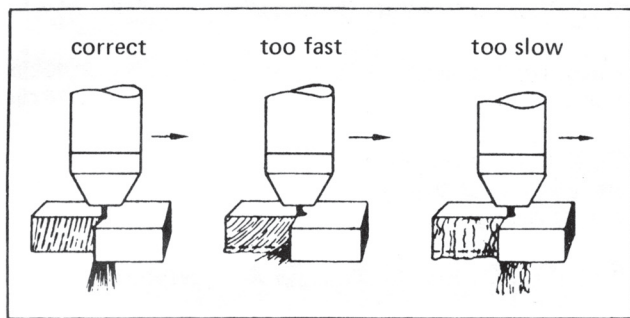

Fig. 5 - Effect of Cutting Speed
4. For manual cutting, maintain a standoff (torch-to-work distance) of about 1/8 to 3/8-in. (3/16 to 1/4-in. with the PT-121). (See Table 3 or 4.) Keep the torch head vertical, and move it at a rate that produces the desired cut quality. The cutting should produce a straight fine spray of molten metal emitting from beneath the workpiece as illustrated in Fig. 5. For mechanized cutting, see Table 3 or 4 for recommended cutting speed range.